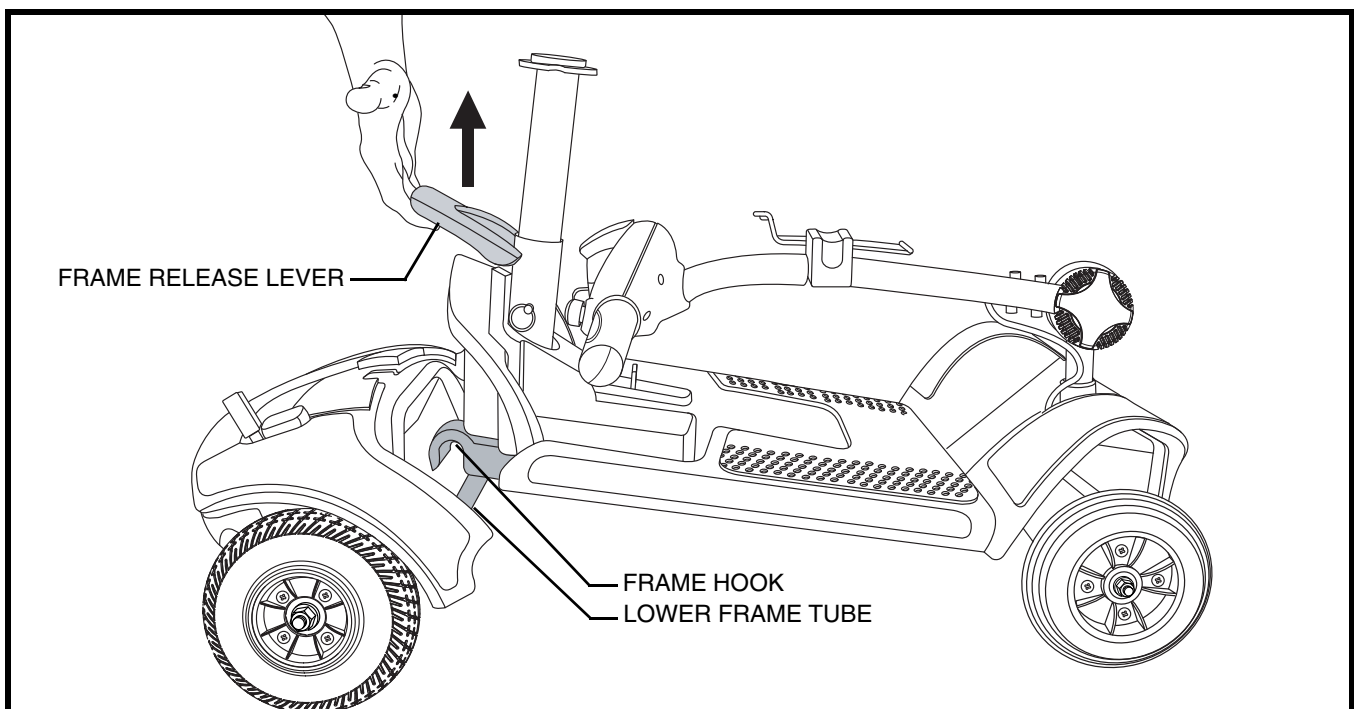

Figure 19. Frame Release Lever
3. Slowly separate the two sections of the Travel Scooter. See **figure 19**.
NOTE: Before attempting assembly, tilt the rear half of the Travel Scooter slightly back on the anti-tip wheels as show in figure 19.
1. Use the frame release lever to lift the front section as you align the frame hooks of the front section with the lower frame tube of the rear section. **See figure 19.**